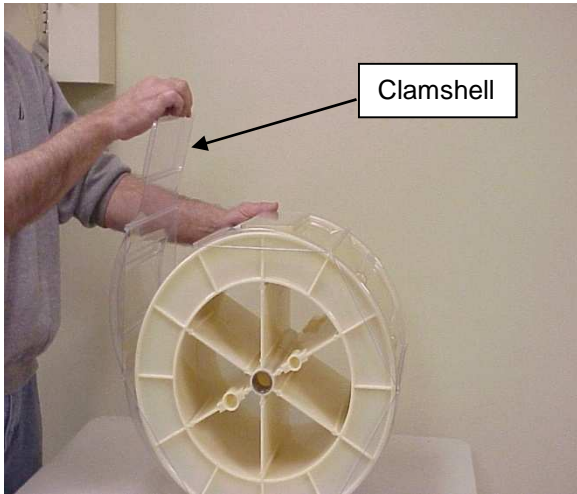

Figure 4
6.10 Remove protective cover (clamshell) from an empty ABF fiber reel. Do not cut, damage, or discard protective cover. Save for re-use during fiber reel storage. **See Fig. 4.**